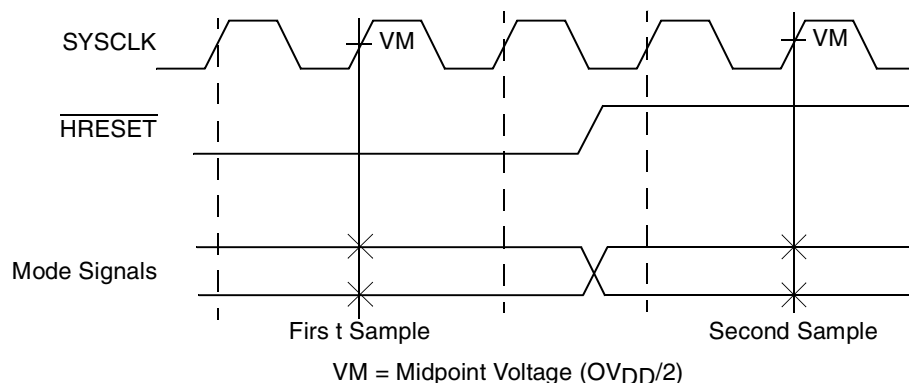

Figure 5. Mode Input Timing Diagram
Table 9 provides the processor bus AC timing specifications for the MPC7455 as defined in Figure 4 and Figure 5. Timing specifications for the L3 bus are provided in Section 5.2.3, “L3 Clock AC Specifications.”
8. BMODE[0:1] and BVSEL are mode select inputs and are sampled before and after HRESET negation. These parameters represent the input setup and hold times for each sample. These values are guaranteed by design and not tested. These inputs must remain stable after the second sample. See Figure 5 for sample timing.
Figure 5 provides the mode select input timing diagram for the MPC7455.